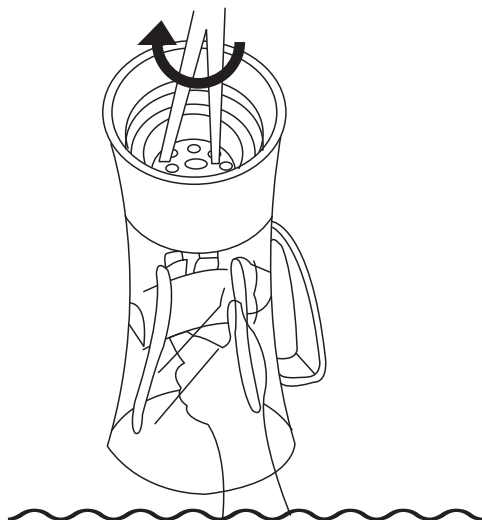

Fig. 1
5.1. Juice cup and Cutter Ass'y --Fig.1,2